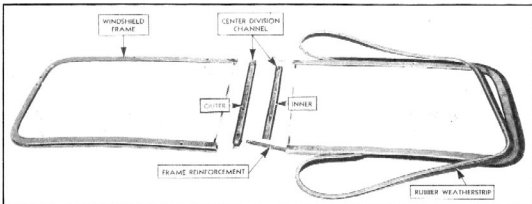

Fig. 3—Showing Windshield Split at Center Reinforcement
4. Remove the screws which attach the top and bottom channels to the frame reinforcement on one side of the center division channel. Then pull the two halves of the windshield apart at the center, as shown in Fig. 3.